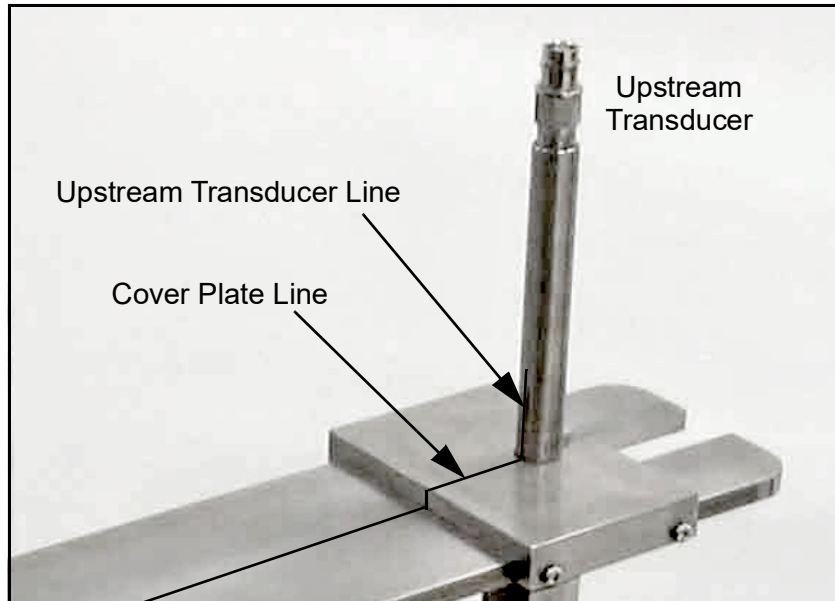

Figure 13: Upstream Transducer Mark Aligned with Cover Plate Line
6. Check to see if the line on the upstream transducer tube is aligned with the line on the cover plate. If they are not aligned, loosen the nuts on top of the barrel flange and rotate the transducer assembly until the two lines are aligned (see *Figure 13* below). Then, re-tighten the nuts.